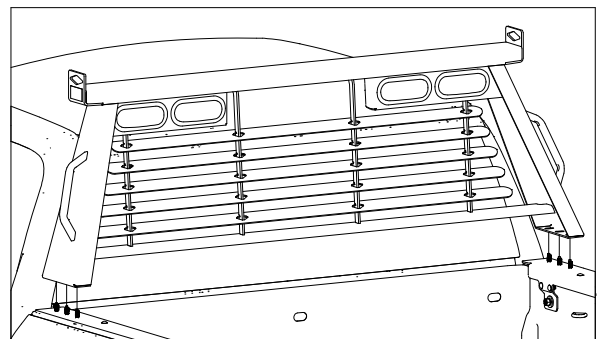

Figure D1: View looking at cab of truck.
1. **Mount cab protector.** Position the slots on the bottom of the cab protector over threaded studs on the bed protectors, see Figure D1. Fasten the cab protector with the provided 3/8" Large flat washers, lock washers, and finish nuts. Before fully tightening, make sure the cab protector is centered with the truck as viewed from the rear. Then tighten the 6 nuts on the cab protector to 20 ft-lbs. Do not overtighten.